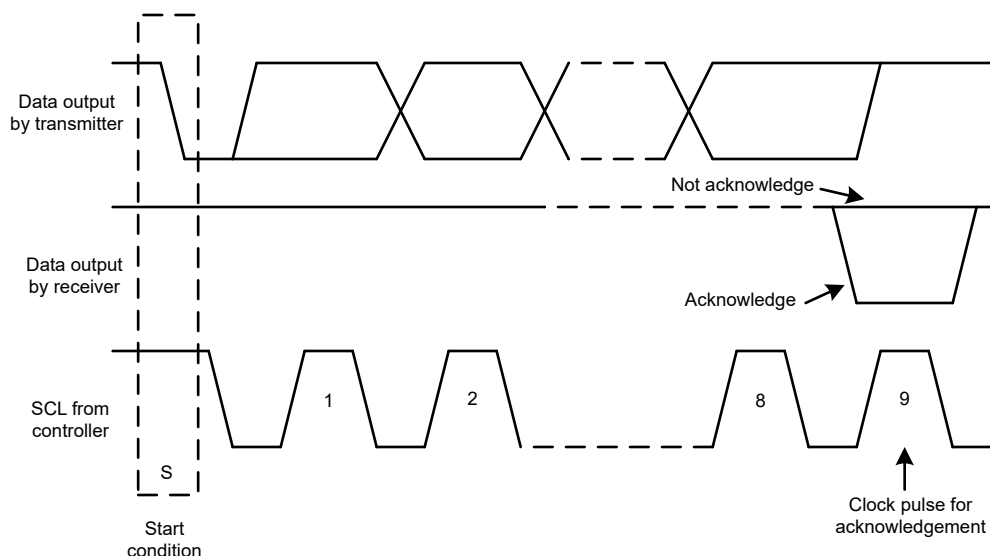
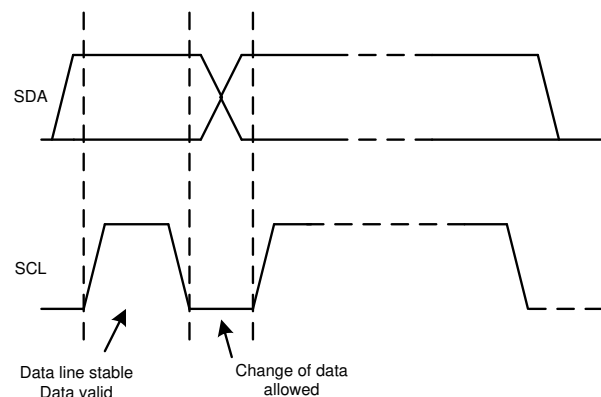

Figure 7-11. Acknowledge and Not Acknowledge on the I²C Bus
Figure 7-13. Bit Transfer on the I²C Bus
Other than specific timing signals, the I²C interface works with serial bytes. At the end of each byte, a ninth clock cycle generates and detects an acknowledge signal. An acknowledge is when the SDA line is pulled low during the high period of the ninth clock cycle. Figure 7-11 depicts a not-acknowledge, when the SDA line is left high during the high period of the ninth clock cycle.
2. The controller then generates the SCL pulses, and transmits the 7-bit address and the read/write direction bit ($R/\overline{W}$) on the SDA line. During all transmissions, the controller makes sure that data are valid. Figure 7-13 shows that a valid data condition requires the SDA line to be stable during the entire high period of the clock pulse. All devices recognize the address sent by the controller and compare the address to the respective internal fixed address. Only the target device with a matching address generates an acknowledge by pulling the SDA line low during the entire high period of the 9th SCL cycle (see also Figure 7-11). When the controller detects this acknowledge, the communication link with a target has been established.